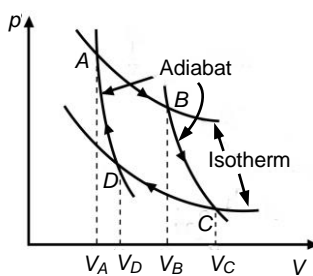

Fig. 7.8: A reversible cyclic process.
7. A reversible cyclic process consists of four steps: isothermal expansion (AB) at temperature T_1 , adiabatic expansion (BC), isothermal compression (CD) at temperature T_2 and adiabatic compression (DA) as shown in Fig. 7.8. Using the first law of thermodynamics, obtain an expression for the total work done.